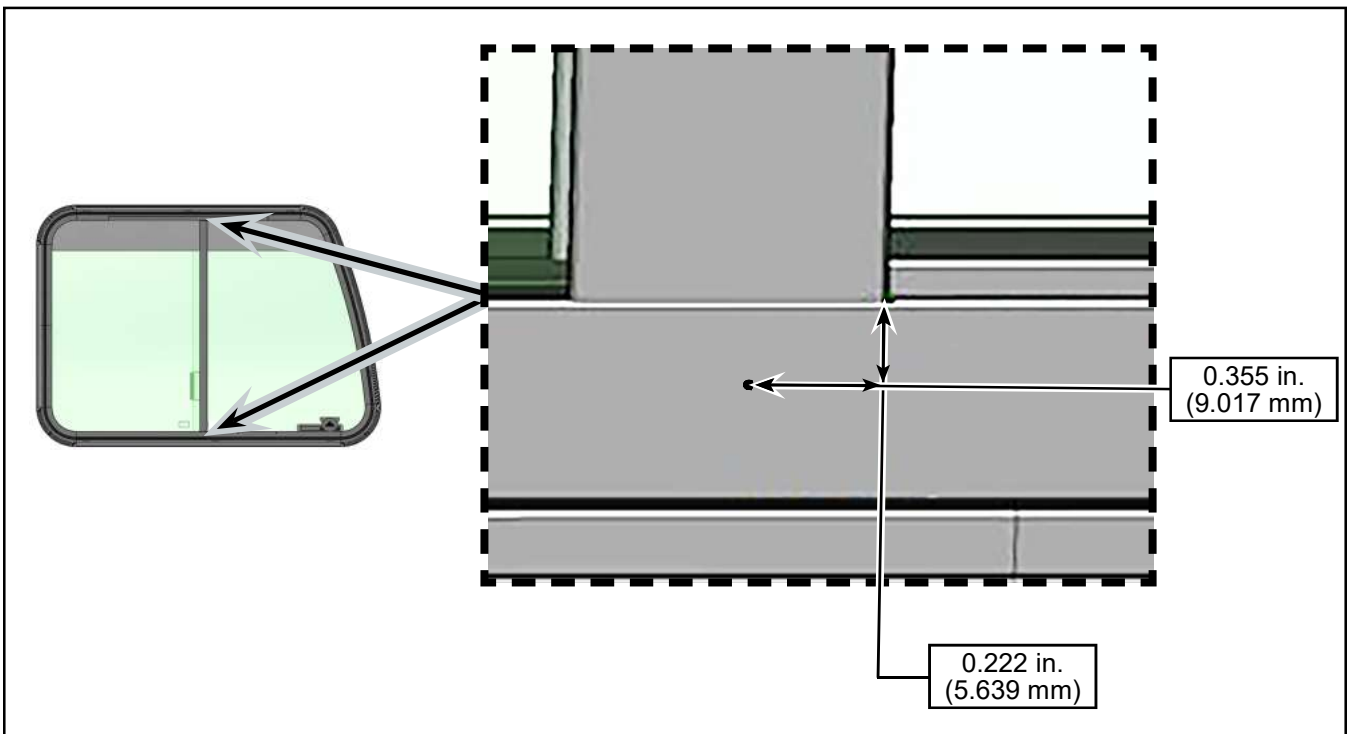

Figure 16 - Mark Clearance Hole Locations (Only Bottom One is Shown)
- 1.17. With the mullion well seated on the rear sash, mark the top and bottom clearance hole locations. Use the dimensions show in Figure 16 for both holes.